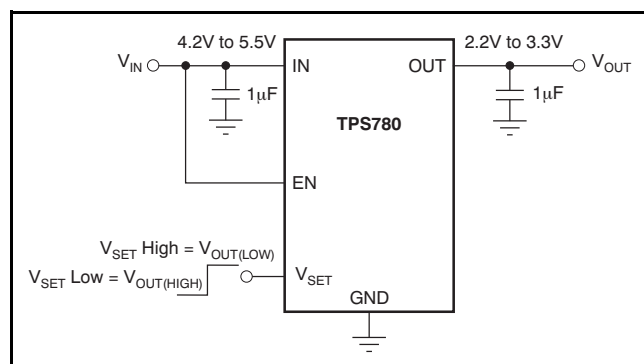
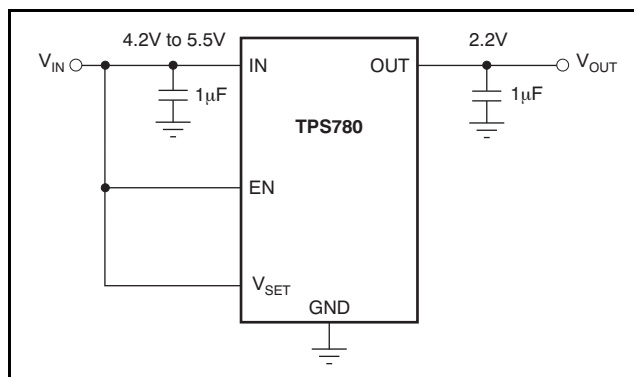

Figure 58. Circuit Showing EN Tied High when Shutdown Capability is Not Required
Figure 59. Circuit to Tie Both EN and V_{SET} High
The enable pin (EN) is active high and is compatible with standard and low-voltage CMOS levels. When shutdown capability is not required, EN should be connected to the IN pin, as shown in Figure 58. Figure 59 shows both EN and V_{SET} connected to IN. The TPS780 series, with internal active output pull-down circuitry, discharges the output to within 5% V_{OUT} with a time (t) shown in Equation 3: